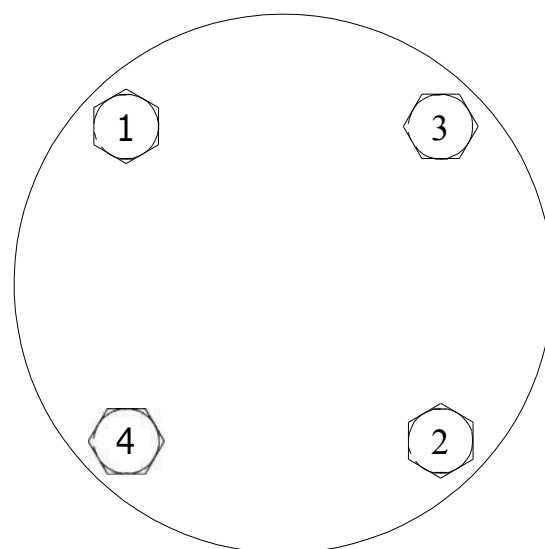

Figure 4. Fastener tightening sequence
- 6.10. Tighten the body bolts to the torque figures shown in Table 2 according to tightening pattern illustrated in figure 4.